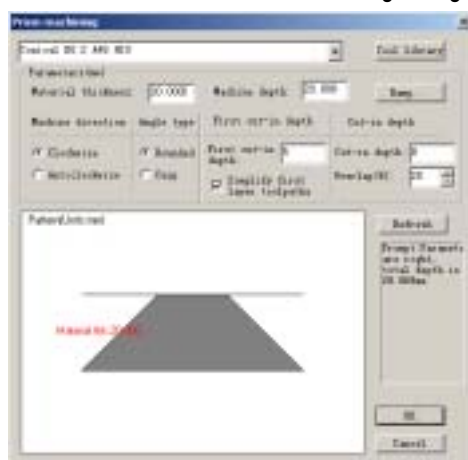

Fig. 10-46
1. Select the object, then click on the shortcut icon  in Tool Path Bar or click tool path->prism machining in the menu bar. Then the Prism machining dialog in Fig. 10-46 is displayed.